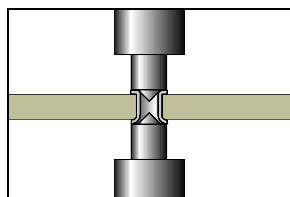

Figure 2: *Flat set the Eyelet with the setting tool.*
5. Flip the Setting Tool around in the Tool Handle and flat set the Eyelet. Apply firm pressure to flat set the Eyelet. (See Figure 2).